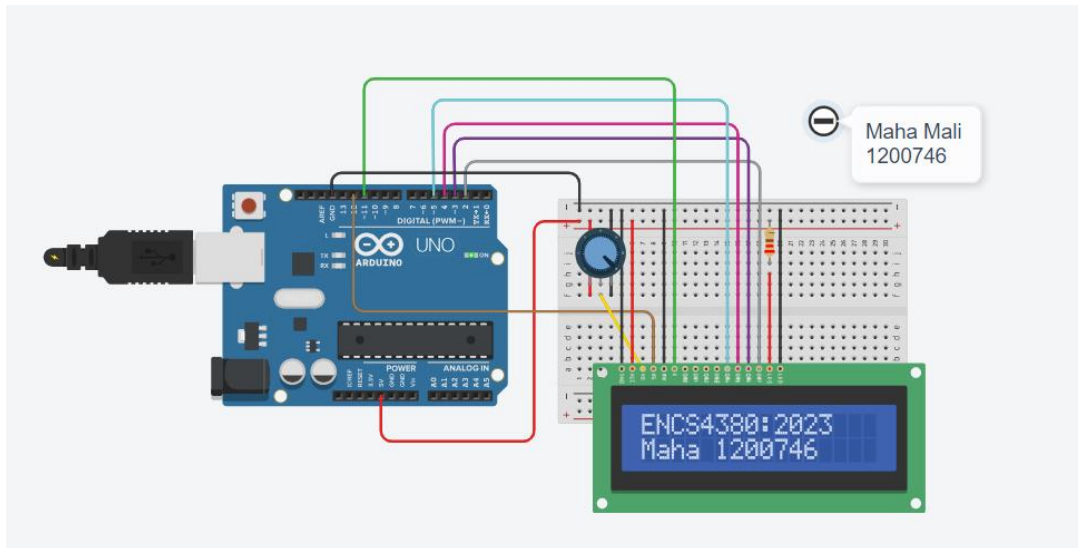

Figure 22: Print the Name and ID on the LCD
- Then I made sure that the text moved correctly from left to right, as shown in figure 22.